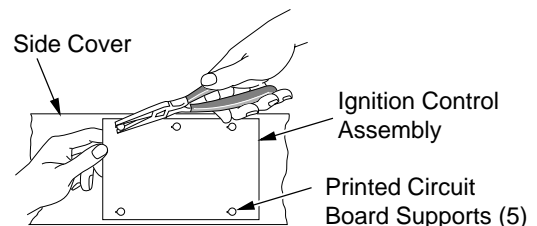

Figure 29 - Removing Circuit Board
3. Using needle nose pliers, squeeze the tab on the printed circuit board support and lift up on the edge of the ignition control assembly (see Figure 29). Repeat this for the other four printed circuit board supports then remove the assembly.